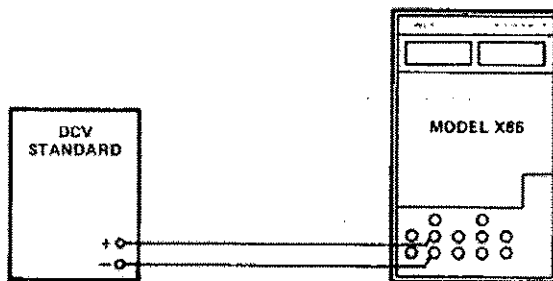

Figure 6-2: Voltage Input Calibration
- a) Connect the X86 calibrator and the dc voltage standard as shown in Figure 6-2.